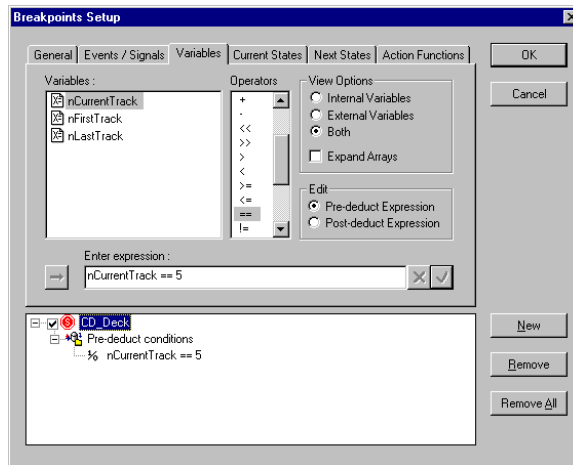

Figure 139: Breakpoints Setup dialog box, Variables tab (Validator)
- 1 Choose Edit>Breakpoints. In the Breakpoints Setup dialog box, click the Variables tab. See *Figure 139*, page 172.